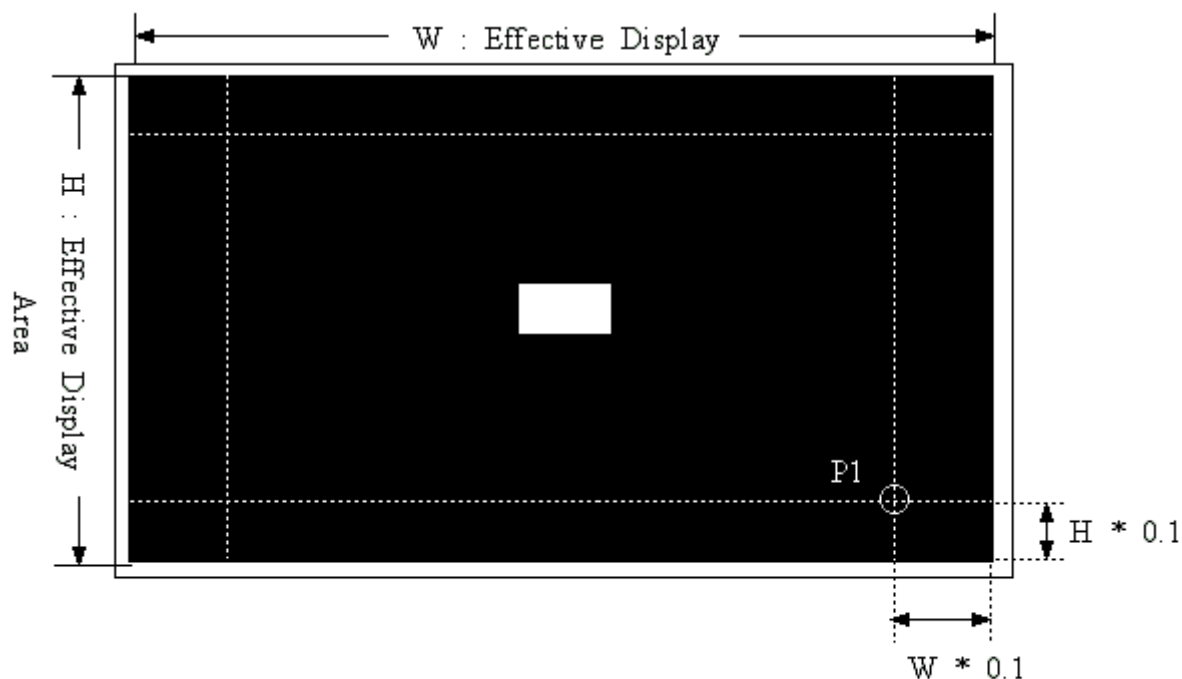

Figure-4. Measurement point
- \* 2. Contrast Ratio is calculated from the display Luminance and the non-display Luminance value. Display condition is shown in Figure-4.
1. For mass production test purposes, it is recommended to measure just 1 point, P1 of Figure.-4 on display pattern of Fig.-3.
(5) Ambient Light : Dark Room (&lt;2 lux)